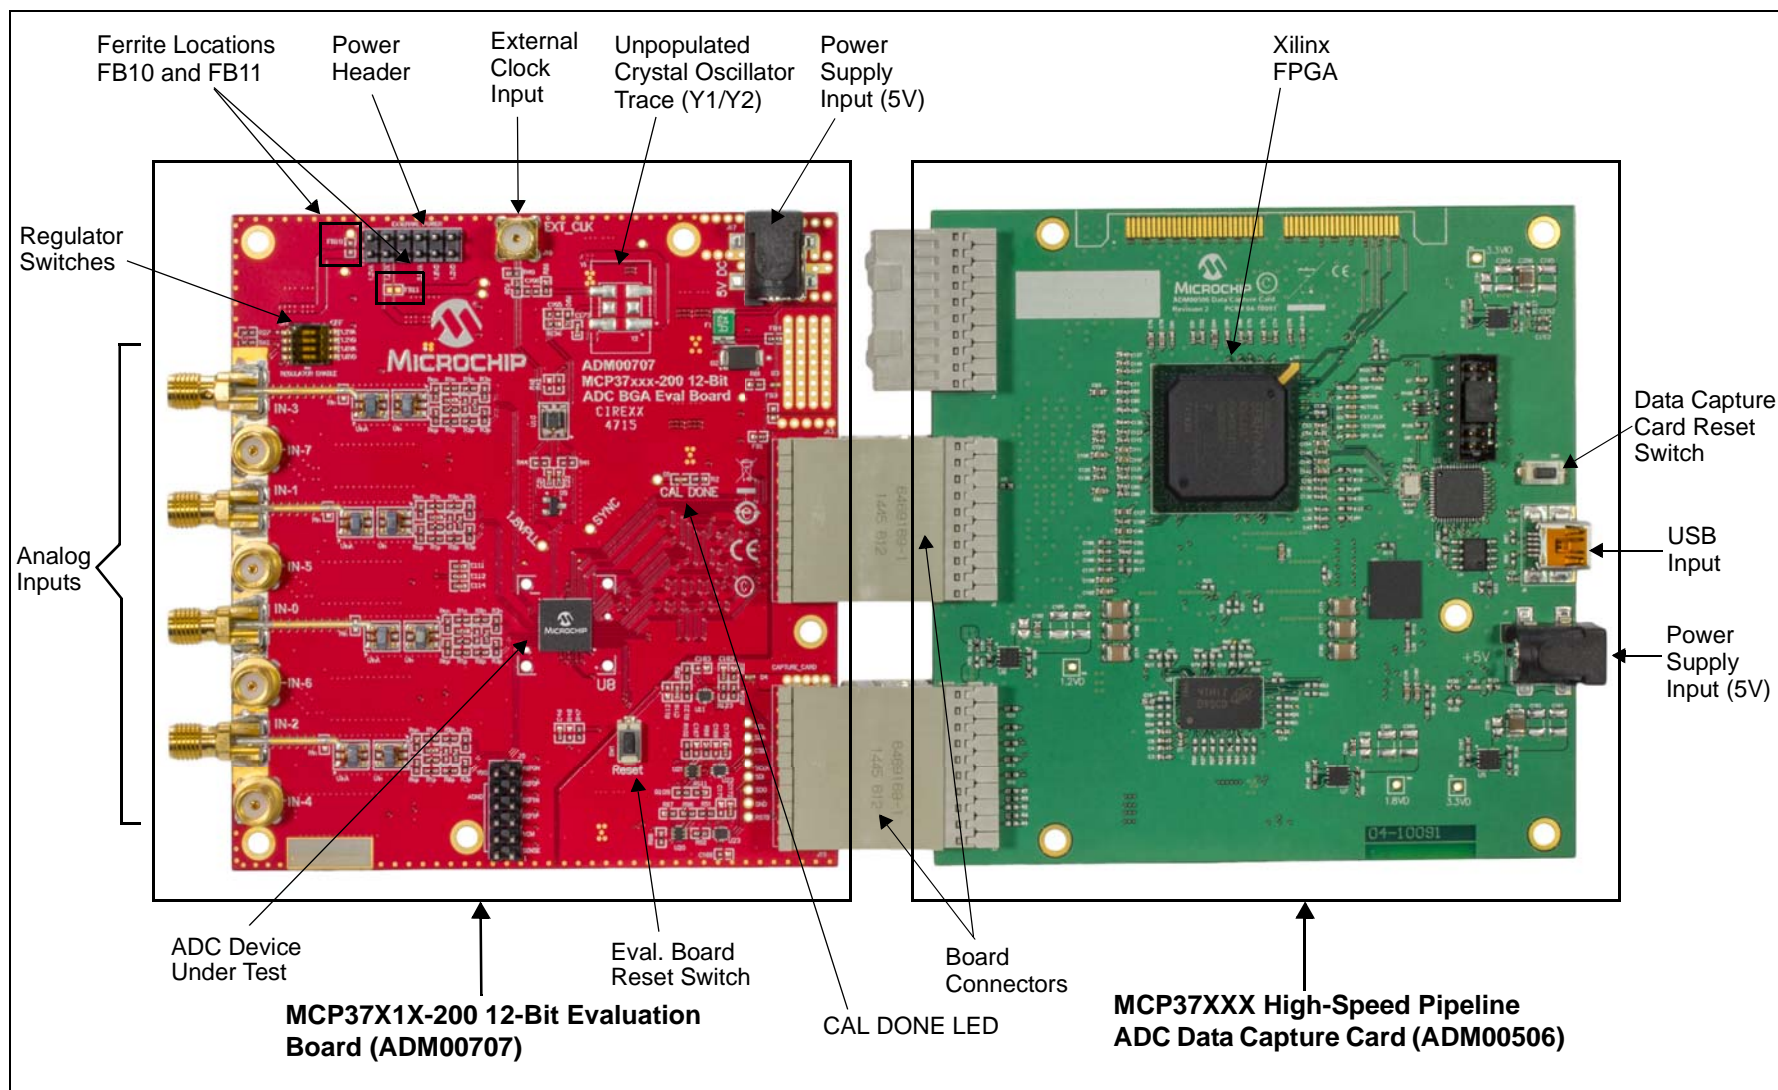

FIGURE 2-1: Evaluation Kit - The evaluation board connected to the data capture card.
This evaluation kit comes with two switching power supplies (Mean Well: GS06U-1P1J): one for each of the boards. These power supplies are able to provide a 5V, 1A maximum output. They can be connected to an AC wall outlet rated between 90V AC and 264V AC, at a frequency of 47 Hz to 63 Hz. The other end of the power supply is a 2.1 mm barrel plug that connects to both the evaluation board and the data capture card (see Figure 2-1). If the user chooses to connect a different external power supply, a minimum output of 750 mA is required.
1. Connect the evaluation board and the data capture card as shown in Figure 2-1.
- Microchip's ADM00725 or ADM00791 evaluation boards may be connected to the external clock SMA input (See Figure 2-1). These boards were developed as an optimized clock source for Microchip's High-Speed ADCs. For more information, refer to the board web page.